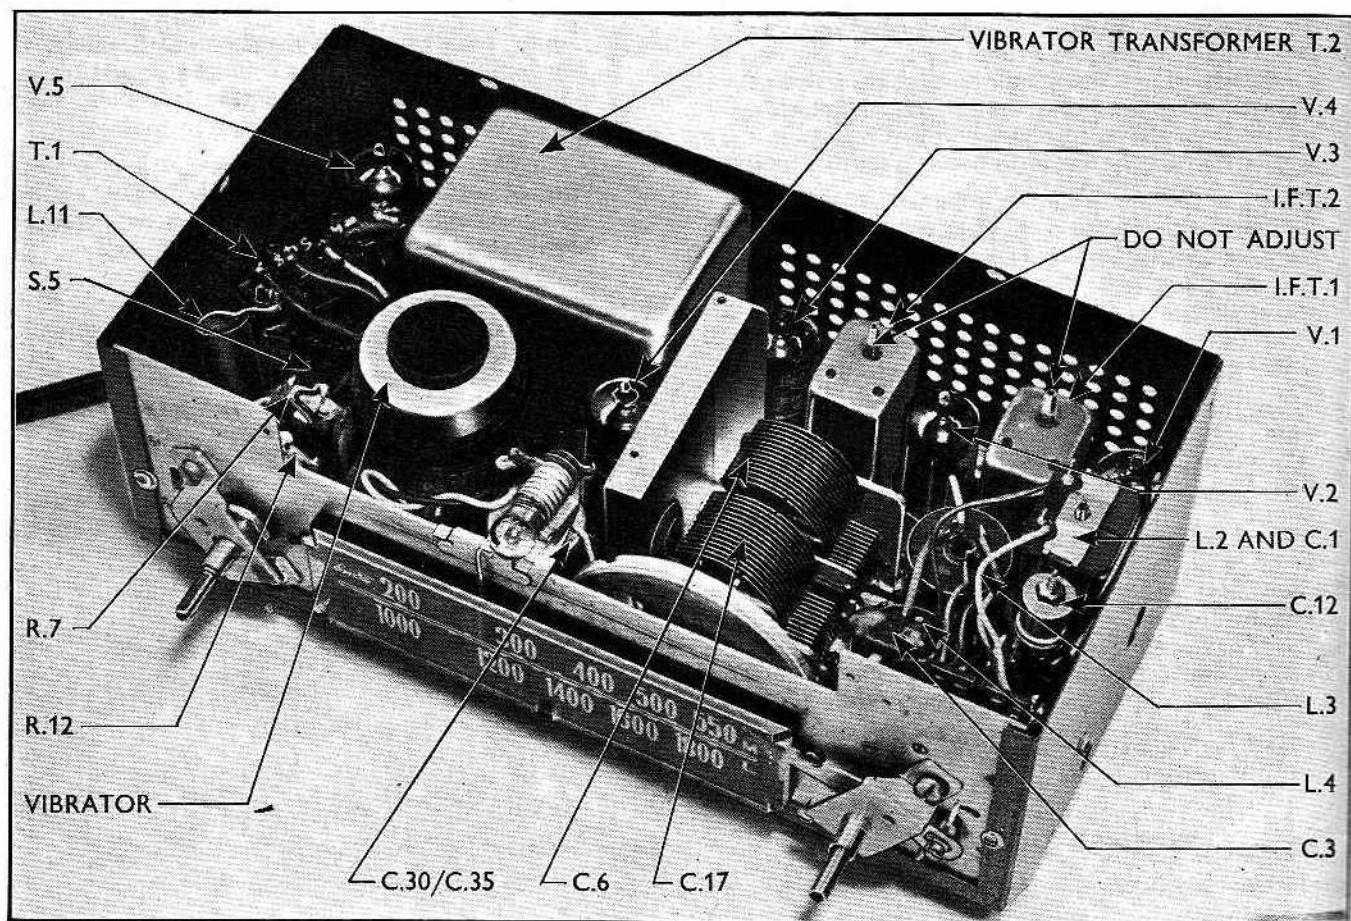

Fig. 593
- 2 Unscrew the six screws retaining the top of the set in position, and remove the cover (see Fig. 593).